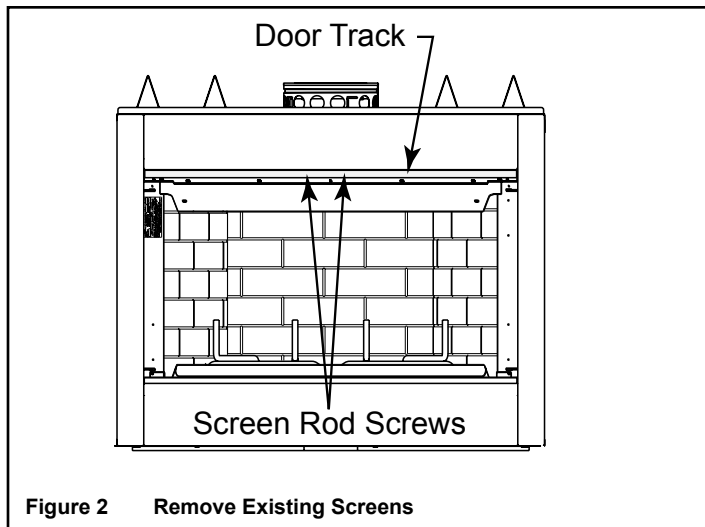

Figure 2 Remove Existing Screens
- B. Remove the existing screens from the fireplace (refer to Figure 2):